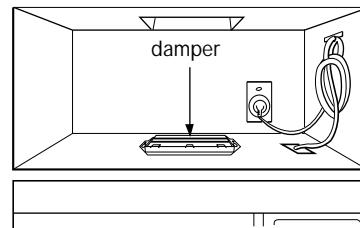

Figure 32
5. Roof vented installation: See Figure 32